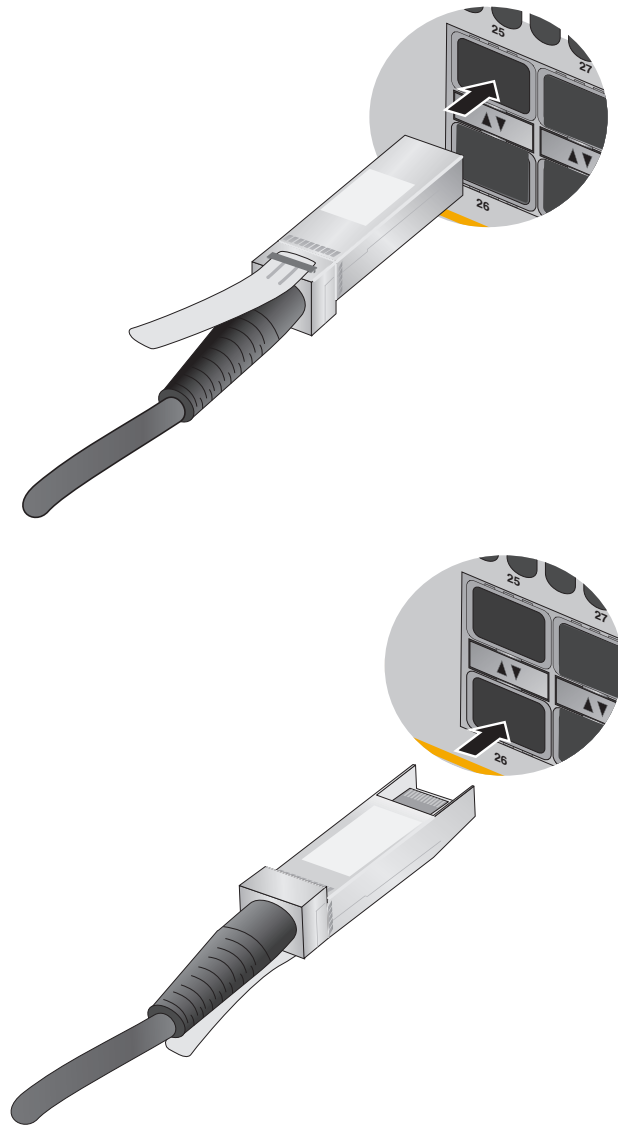

Figure 35. Installing SP10TW Cables
3. To install the transceiver in a port in the top row, position the transceiver with the Allied Telesis label facing up. To install the transceiver in a port in the bottom row, position the transceiver with the label facing down. Refer to Figure 35 on page 121.